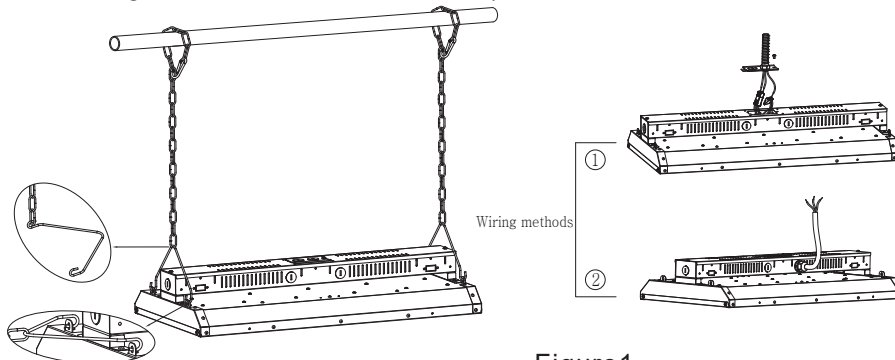

Figure1
Step1.Hook up the chain: (Figure 1)
Step2.Connect the chain with fixture: (Figure 1)
Step3. Fix the chain on the rail, adjust the chain length as per need: (Figure 1)